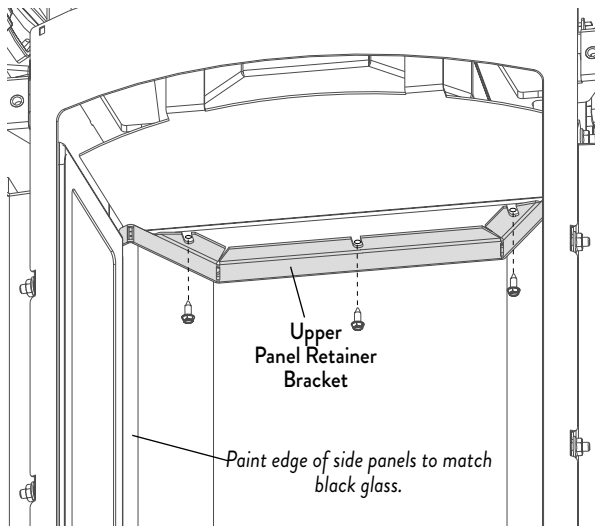

Figure 7.9. Loosen the panel retainer screws.
1. Remove the Upper Retainer Bracket from the firebox with removal of three #8 x 12 sheet metal screws. See fig. 7.9.